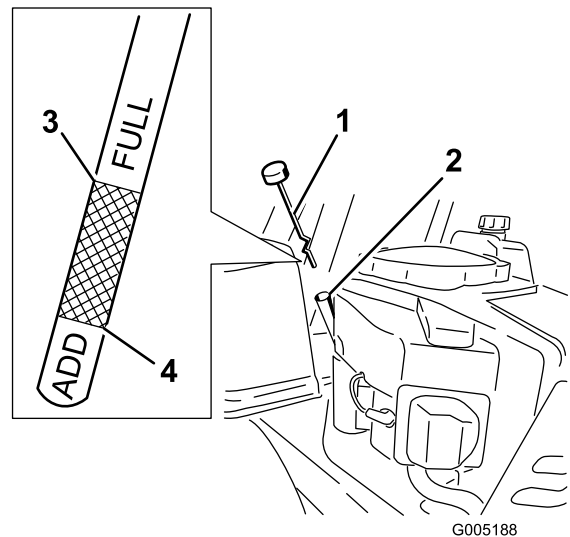

Figure 26
4. Unscrew and remove the dipstick; wipe oil off (Figure 26). Reinsert the dipstick into the tube and rest the cap on the tube. Do not screw the cap onto the tube.
5. Pull the dipstick out and check the oil level. (Figure 26).
8. Remove the oil fill cap/dipstick (Figure 26).
14. Slowly pour approximately 80% of the specified oil into the filler tube (Figure 26).
15. Install the oil fill cap/dipstick (Figure 26).
16. Check the oil level (Figure 26); refer to Checking the Oil Level.
18. Install the oil fill cap/dipstick and screw tight (Figure 26).